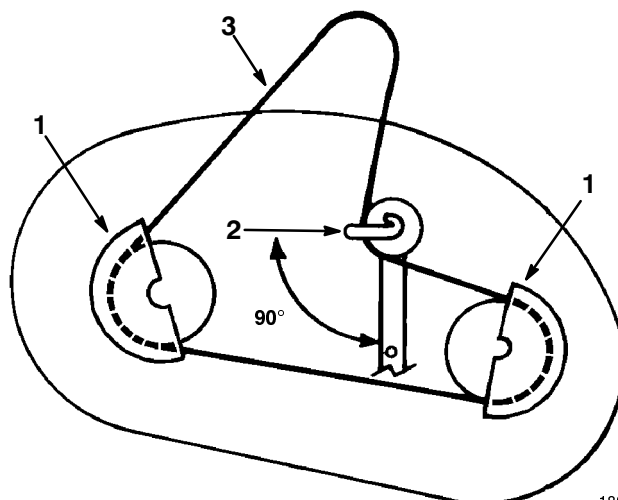

Figure 45
2. Remove the pulley cover mounting screws and pulley covers from both blade pulleys (Fig. 45).
3. Loosen, but do not remove the bolt and nut securing the idler pulley and belt guide (Fig. 45).
2. Position the idler pulley belt guide so it points toward the left, 90° to the idler arm (Fig. 45). Tighten the mounting bolt and lock nut securing the idler pulley and belt guide.
3. Install the left and right pulley covers with the mounting screws (Fig. 45).